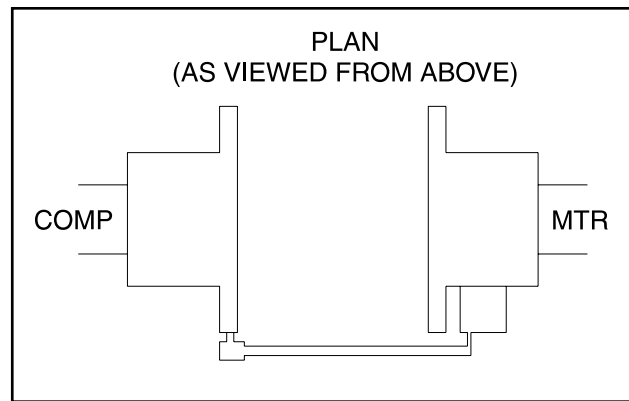

Figure 6 - Dial Indicator At 3 O'clock
10. Check parallel lateral misalignment by positioning dial indicator so the stem is in contact with the rim of the compressor hub at 3 o'clock, as shown in Figure 6.